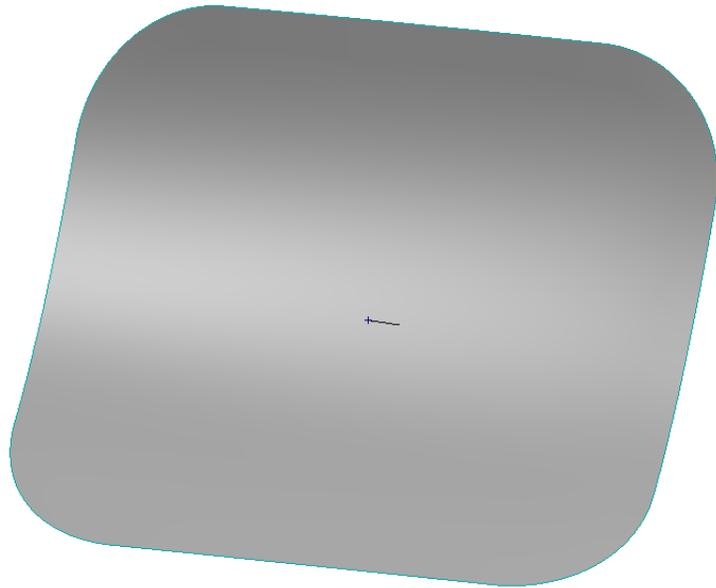

Figure 7–48
1. Open **CORE_C.prt**. The model displays as shown in Figure 7–48.